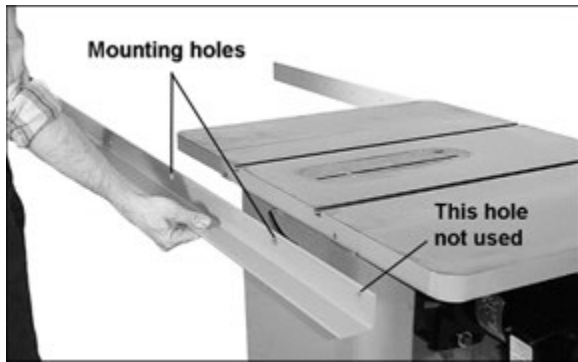

Figure 6-4
2. Align holes in back rail to holes in table top, as shown in Figure 6-4.